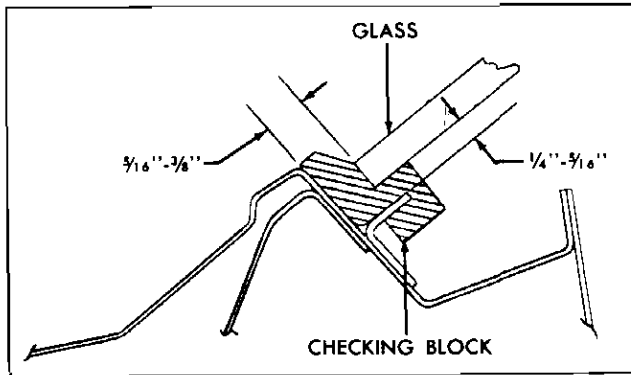

Fig. 1-8 Windshield Opening Checking Block
6. With windshield supported and centered in the body opening by checking blocks, check relationship of glass to body opening around entire perimeter of glass. Fig. 1-8 shows a typical section taken through the glass channel and body opening. Check glass to body relationship as follows: